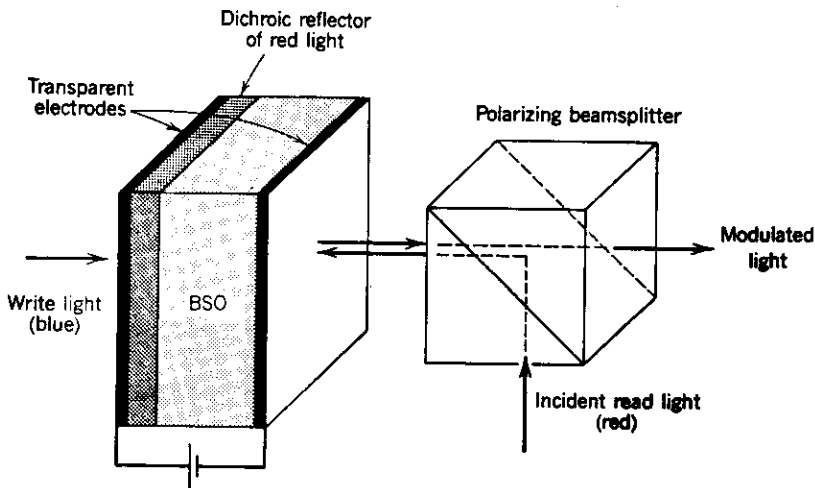

Figure 18.1-15 The Pockels readout optical modulator (PROM).
An ingenious implementation of this principle is the Pockels readout optical modulator (PROM). The device uses a crystal of bismuth silicon oxide, $\text{Bi}_{12}\text{SiO}_{20}$ (BSO), which has an unusual combination of optical and electrical properties: (1) it exhibits the electro-optic (Pockels) effect; (2) it is photoconductive for blue light, but not for red light; and (3) it is a good insulator in the dark. The PROM (Fig. 18.1-15) is made of a thin wafer of BSO sandwiched between two transparent electrodes. The light that is to be modulated (read light) is transmitted through a polarizer, enters the BSO layer, and is reflected by a dichroic reflector, whereupon it crosses a second polarizer. The reflector reflects red light but is transparent to blue light. The PROM is operated as